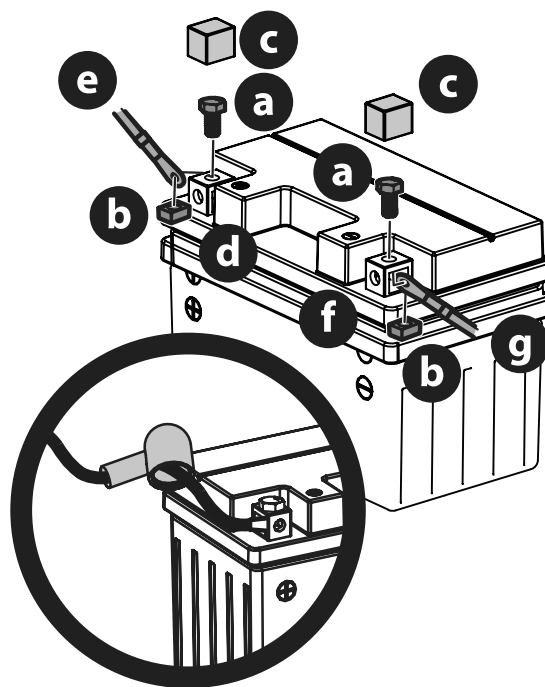

Figure 14
1. Remove the hex screws (a) and square nuts (b) located either on the end of the wiring harness or in the bag with this manual. Retain the hardware for later instructions (Figure 14 on page 12).
2. Position the red rubber boot over the positive battery terminal to help protect it from corrosion (Figure 14 inset).
3. Remove the plastic cover (c), if present, from the positive battery terminal (d) and attach the red cable (e) to the positive battery terminal (d) with one of the hex screws (a) and square nuts (b), from Step 1. Use a Philips screw driver (Figure 14).
4. Remove the plastic cover (c), if present, from the negative battery terminal (f) and attach the black cable (g) to the negative battery terminal (f) with the remaining hex screw (a) and square nut (b) (Figure 14).